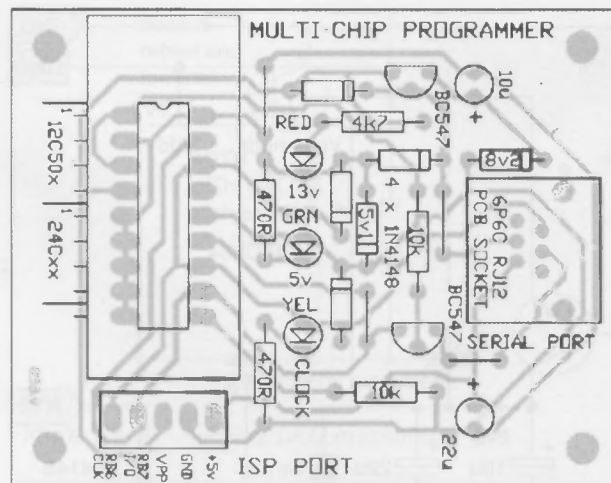

Figure 35-7 Multi-Chip Programmer pictorial diagram
Locate the Multi-Chip Programmer pictorial PC layout diagram illustrated in Figure 35-7 and once you have collected all the necessary tools and project parts, we can begin building the Multi-Chip Programmer project. Place all the project parts in front of you and heat up your soldering iron. Now refer to Table 35-1, which illustrates the resistor color chart. All resistors have color codes on the body of the resistor, which start at one end of the resistor body. The first color band represents the first digit of the resistor code. The second color band represents the second digit of the resistor's code and the third color band denotes the multiplier value used to compute the value. A fourth color band depicts the resistor's tolerance value. A silver band denotes a 10% tolerance value, while a gold band denotes a 5% tolerance. Absence of a fourth color band show the resistor has a 20% tolerance. So look through the project resistors for R1, and try to see if you can locate a resistor with a 470 ohm value. The first band will be yellow (4), the second band will be violet (7) and the third band will be brown, a multiplier of (0). Once you locate this resistor you can place it on the PC board at its proper location. Next you can solder the resistor to the circuit board, then follow-up by cutting the excess resistor lead flush to the edge of the circuit board with your end-cutters. Now locate the remaining resistors using the resistor color code chart. Install the remaining resistors, then go ahead and solder them in place on the PC board.